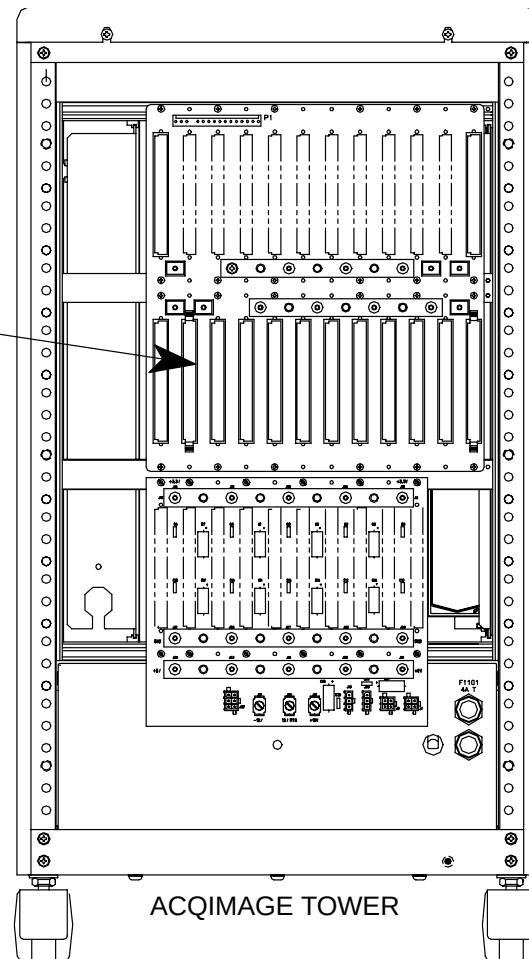

FIGURE 60 L11036 GANTRY DATA CABLING AND STRAIN RELIEF DETAIL
4. Loosen the screws on the AcQImage Cabinet's right side strain relief. Feed the ribbon cable (P/N L1036) in and attach to the #11 connector of the J2 backplane. Ensure latches are in the locked position. Tighten the strain relief to secure the cable. Details are shown in Figure 60. Replace the rear cover. Attach the other end to J101 of the Gantry cardfile backplane.